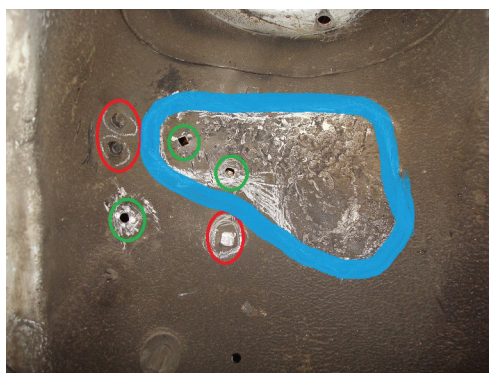

fig. 8
2. To gain full use of the camber plates, some inner fender modifications should be done to insure clearance around the new air spring assembly (fig. 8). All bolts should be trimmed flush with the mounting nuts. All unused nuts should be removed. Some vehicles may require some modification to form the sheet metal away from the air spring (2005 STi left inner fender shown: RED=trim, GREEN=remove, BLUE=form).